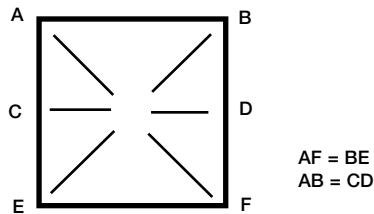

Figure 3
- Individual damper sections, as well as entire multiple section assemblies must be completely square and free from racking, twisting, or bending. Measure diagonally from upper corners to opposite lower corners of each section (see Figure 3 & 4).